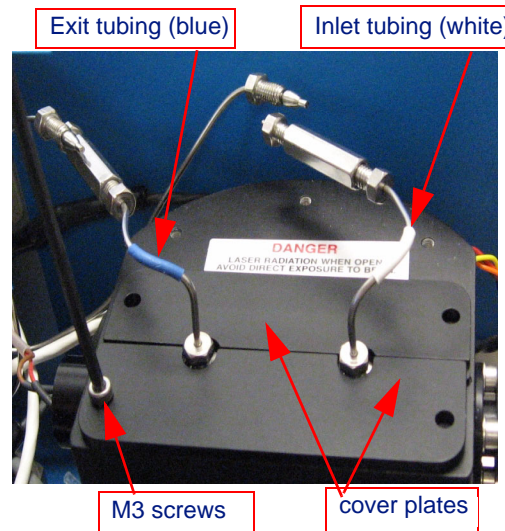

Figure 5-2: Flow Cell without COMET Option
**If the COMET option is not installed, see Figure 5-2.**
8. Using the 1/4" crescent wrenches, remove the inlet tubing and outlet tubing at the fittings as shown in Figure 5-2. The flow cell does not need to be unplumbed at this point if you are simply going to inspect the cell for dirt.